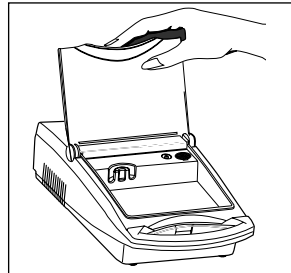

Figure 1
2. Open door to storage compartment (**Fig. 1**).